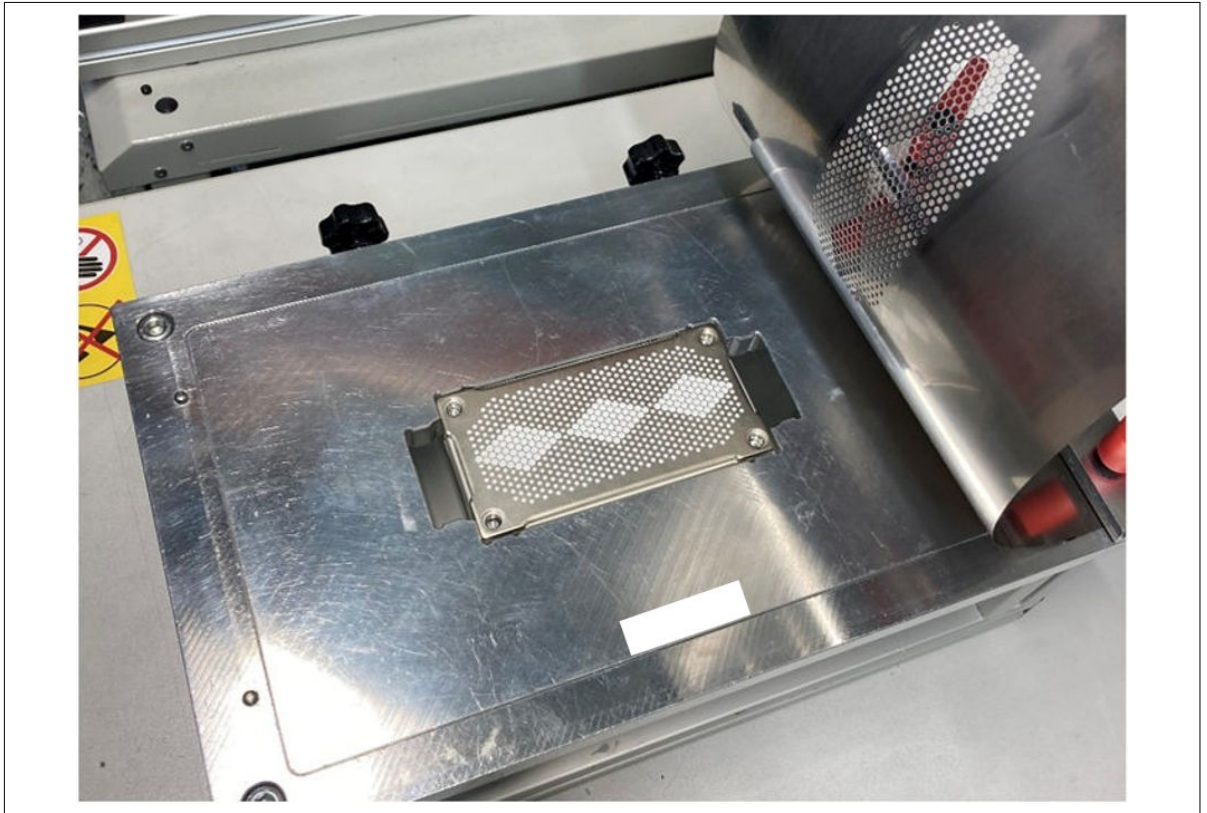

Figure 6 Removing the screen-printing template
4. Remove the template carefully from the baseplate according to the following Figure 6.